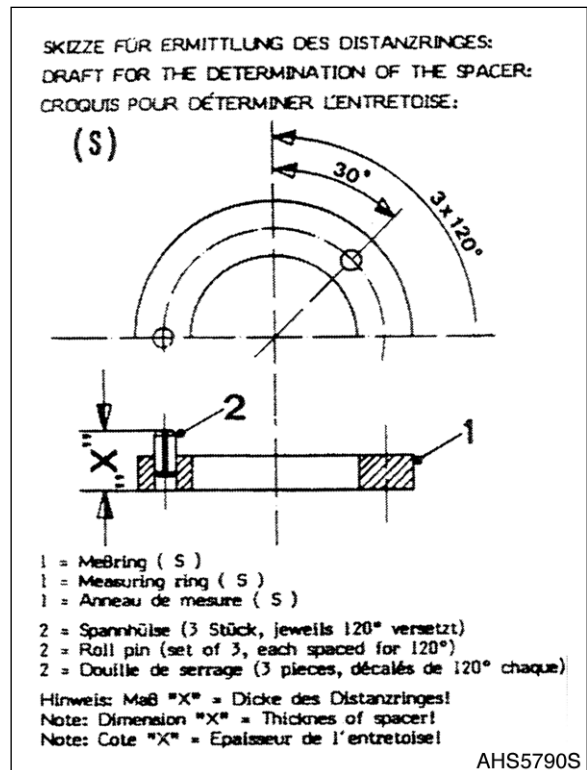

Figure 205
NOTE: Configuration and description of the measuring ring, See Figure 205.
6. Take off measuring ring and determine dimension "X" (see Figure 205).